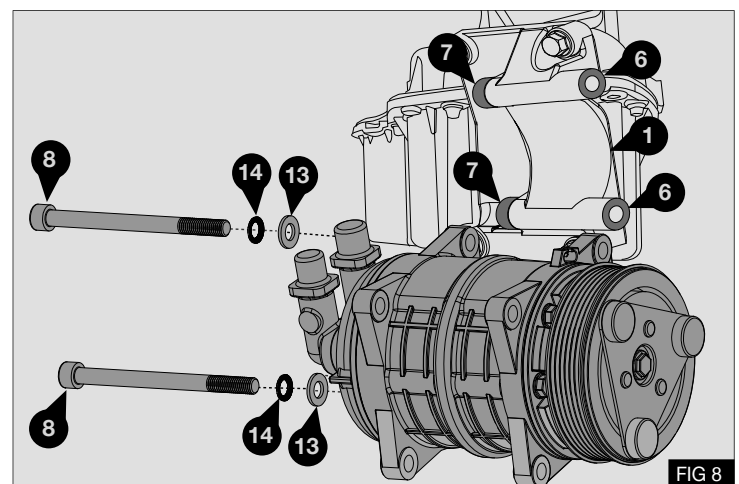

FIG 8
1. Mount a compatible compressor specified on page 3 to the mount bracket (1), using 2 x 8.5 MM Spacers (7) between the rear ears of the compressor and the back mounting face of the mount bracket (1), 2 x 1.6 MM Spacers (6) between the front ears of the compressor and the front mounting face of the mounting bracket (1), 2 x M10 x 130 bolts (8), 2 x flat washers (13) and 2 x Schnorr safety washers (14) - Fig 8